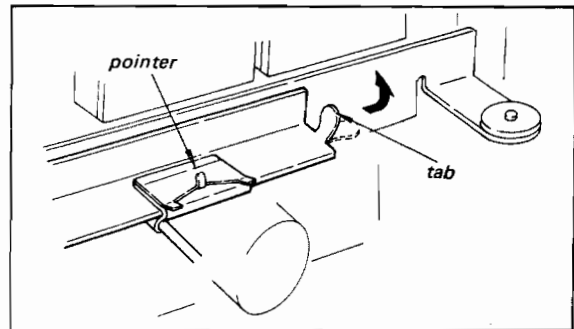
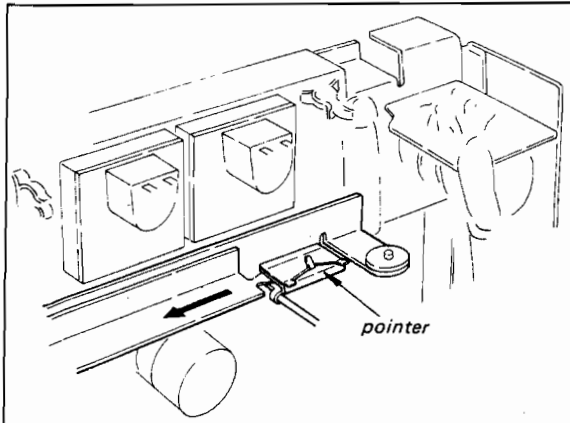

Fig. 2-7. Dial pointer installation (2)
Fig. 2-6. Dial pointer installation (1)
3. Put the pointer on the pointer guide as shown in Fig. 2-6 and bend the pointer guide tab as shown in Fig. 2-7, if necessary.